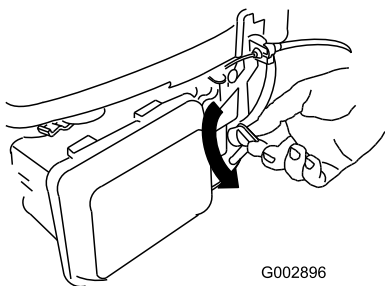

Figure 20
2. Turn the fuel valve lever to the On position (Figure 20).